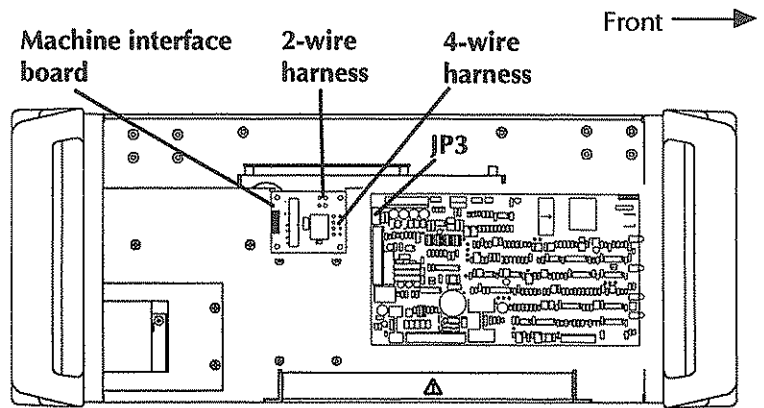

Figure 3 - Machine Interface Board Installation
5. Orient the machine interface board with the attached 4-wire harness facing the control board connector JP3 as shown in Fig. 3.
7. Attach the 4-wire harness to the control board connector JP3 - Fig. 3.